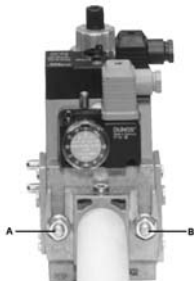

Fig. 3
3. tighten screws A, B, C and D (Fig. 3 - Fig. 4), according to the mounting positions (Fig. 6);